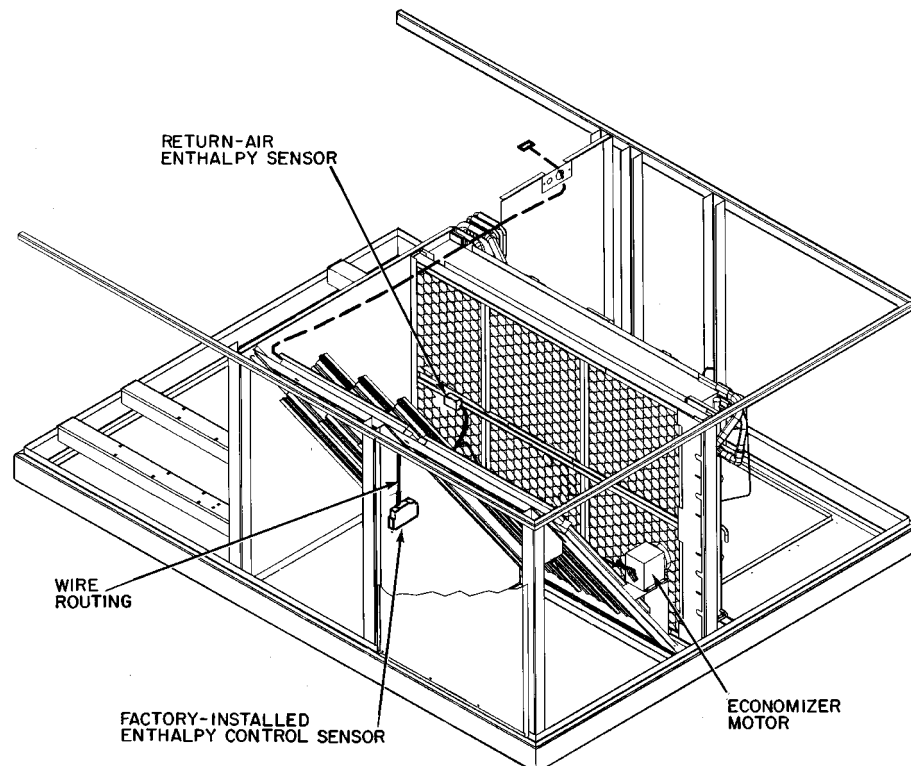

Fig. 5 — Return-Air Enthalpy Sensor Installation and Wire Routing, 024-030 Units
1. Remove access cover from top of economizer motor. See Fig. 5 and 6.
4. Remove return-air enthalpy sensor from accessory package. Using screws provided, attach sensor to factory-installed bracket on filter track. See Fig. 5.
5. Route wires to filter section as shown in Fig. 5, using wire ties to attach to existing wires.
6. Remove return-air enthalpy sensor from accessory package. Using screws provided, attach sensor to factory-installed bracket on filter track. See Fig. 5.